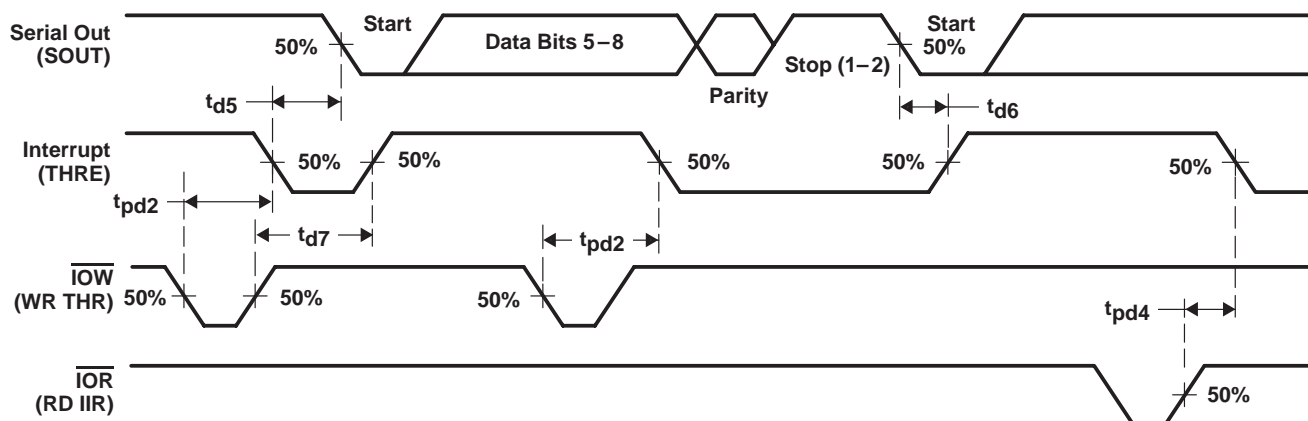

Figure 6. Transmitter Timing Waveforms
**transmitter switching characteristics over recommended ranges of operating free-air temperature and supply voltage (see Note 11 and Figures 6, 7, and 8)**